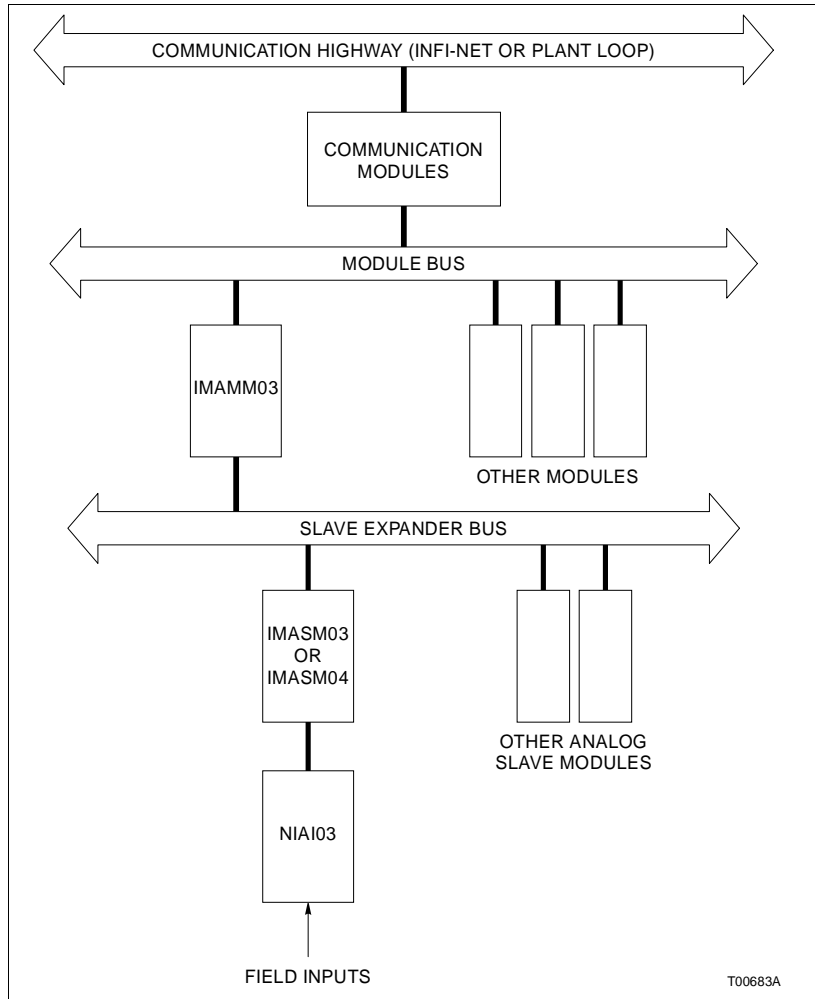

Figure 1-1. Application Example for NIAI03
The NIAI03 is a single printed circuit board that uses one slot in a Termination Module Mounting Unit (NTMU01/02). The termination module (TM) has one card edge connector that connects to the slave module through a cable. The terminal blocks for field wiring are on the TM. The NIAI03 handles up to eight three-wire RTD inputs for the IMASM03/04. Figure 1-1 shows an application example for the NIAI03.